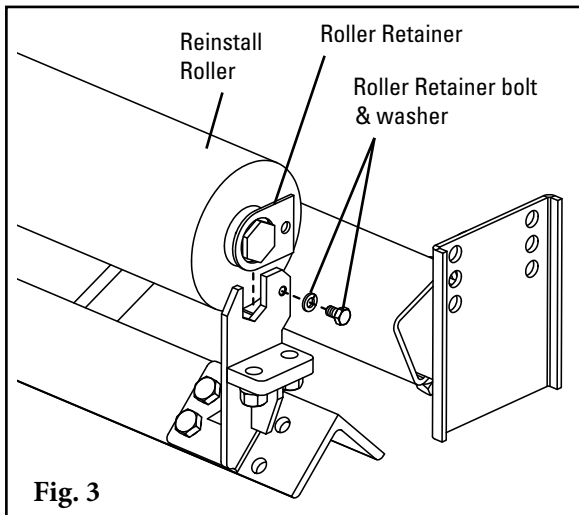

Fig. 3
- 3. Install new roller** and re-bolt roller retainer (Fig. 3). Confirm roller turns smoothly.